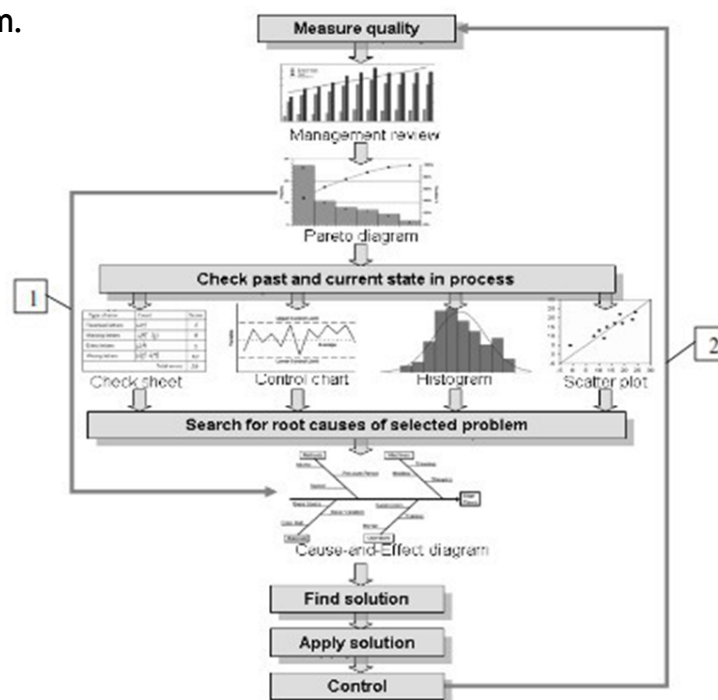

**Figure 8: The Shewhart control chart**
**Control chart** or **Shewhart control chart** was introduced and developed by Walter A. Shewhart in the 1920s at the Bell Telephone Laboratories, and is likely the most "technically sophisticated" for quality management. Control charts is a special form of "run chart that it illustrates the amount and nature of variation in the process over time". Also, it can draw and describe what has been happening in the process. Therefore, it is very important to apply control chart, because it can observe and monitor process to study process that is in "statistical control" (No problem with quality) according to the samplings or samplings are between UCL and LCL (upper control limit (UCL) and the lower control limit (LCL)). "statistical control" is not between UCL and LCL, so it means the process is out of control, then control can be applied to find causes of quality problem, as shown in Figure 8 that A point is in control and B point is out of control. In addition, this chart can be utilized for estimating "the parameters" and "reducing the variability" in a process. The main aim of control chart is to prevent the defects in process. It is very essentially for different businesses and industries, the reason is that unsatisfactory products or services are more costed than spending expenses of prevention by some tools like control charts. A Control Chart is presented in the following Figure.